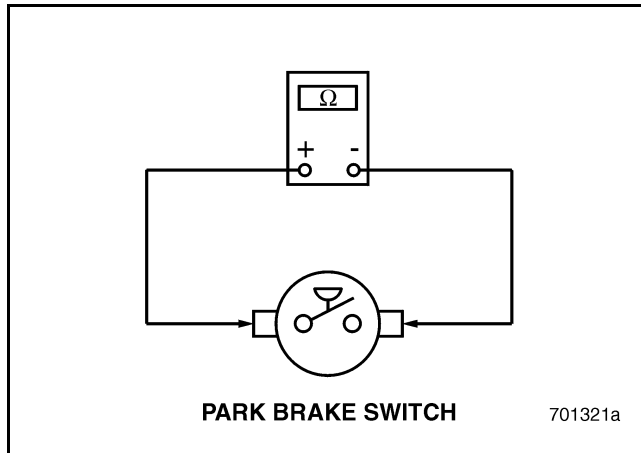

Figure 692
4. Check for continuity across the two terminals of the Park Brake Switch (see Figure 692).